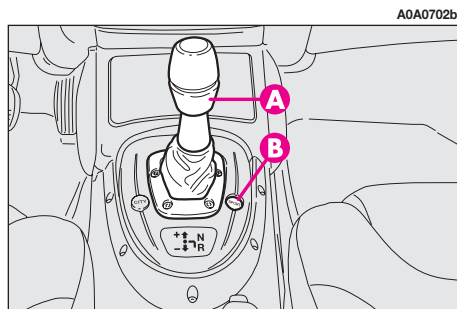

fig. 124
2) sport: (to be activated by button **B-fig. 124**): for sporty driving.
Sport operating mode is selected by pressing button **SPORT (B-fig. 124)** set on the gearshift lever; when selecting this mode, the display will show **SPORT**.
- the control lever on the centre console (**A-fig. 124**);